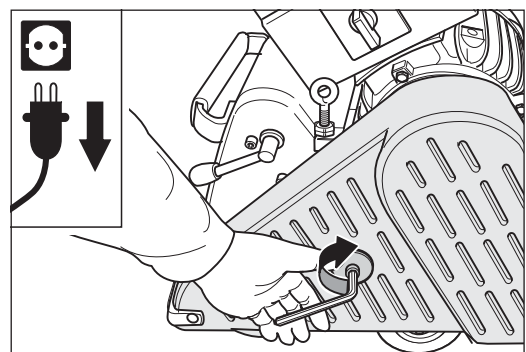

Fig. 106 Close the belt guard.
- 8 Close the belt guard (Fig. 106).